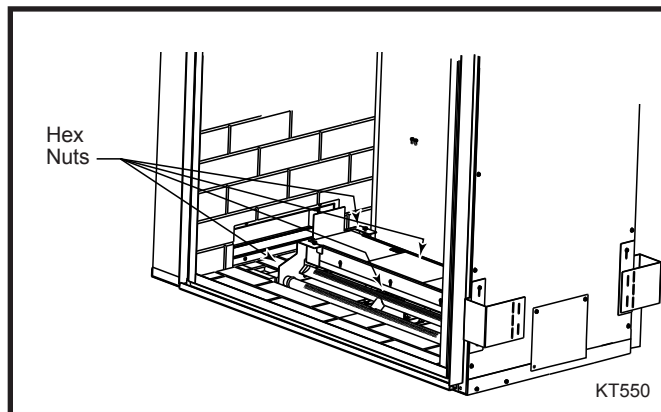

Fig. 54 Use 3/8" socket to remove hex nuts holding burner legs.
1. With a Phillips or Robertson screwdriver, remove the four (4) nuts holding the fettle to the burner assemblies. With a hex, remove the two (2) hex nuts holding each burner tube to the front of the burner assembly on both sides. Remove burner tubes.
2. Remove two (2) hex nuts holding the left burner leg. Remove burner leg. (Fig. 54)
3. Remove two (2) screws holding the pilot assembly